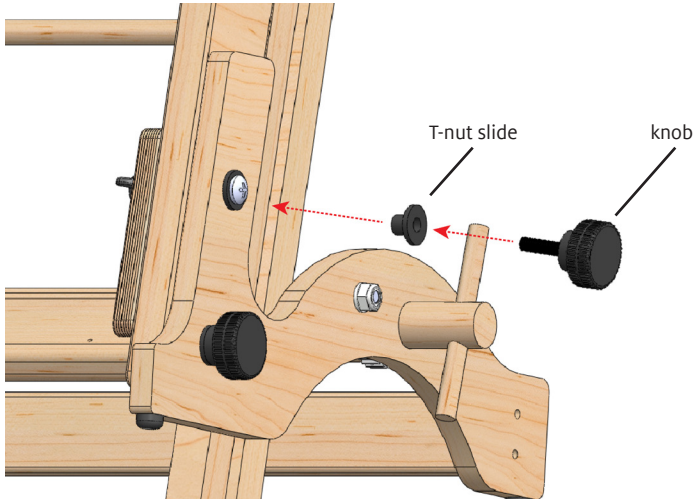

FIGURE 11: ATTACH MOUNTING PLATES TO STAND
11. Place the loom on the stand: the stand legs fit between the guides on the mounting plates and the loom uprights or beam kit bases, as shown in Figure 11. Insert a knob with a 1-1/4" shaft through the slot in the stand leg, then screw it into the mounting plate. Repeat on the other